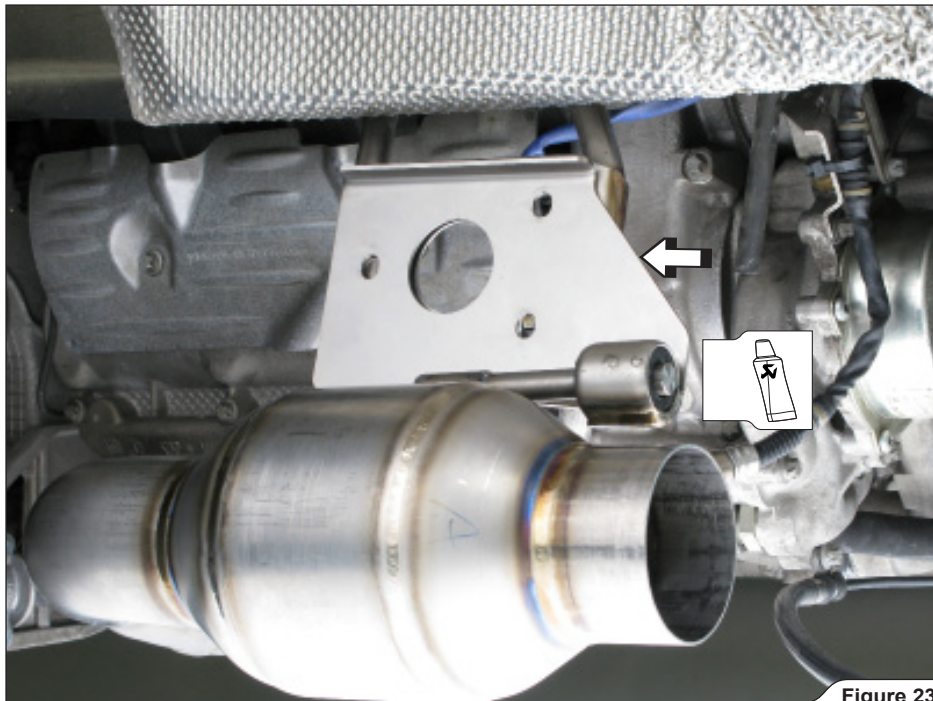

Figure 23
5. **For Evolution:** attach the headers' brackets on both sides of the vehicle (**Figure 23**).